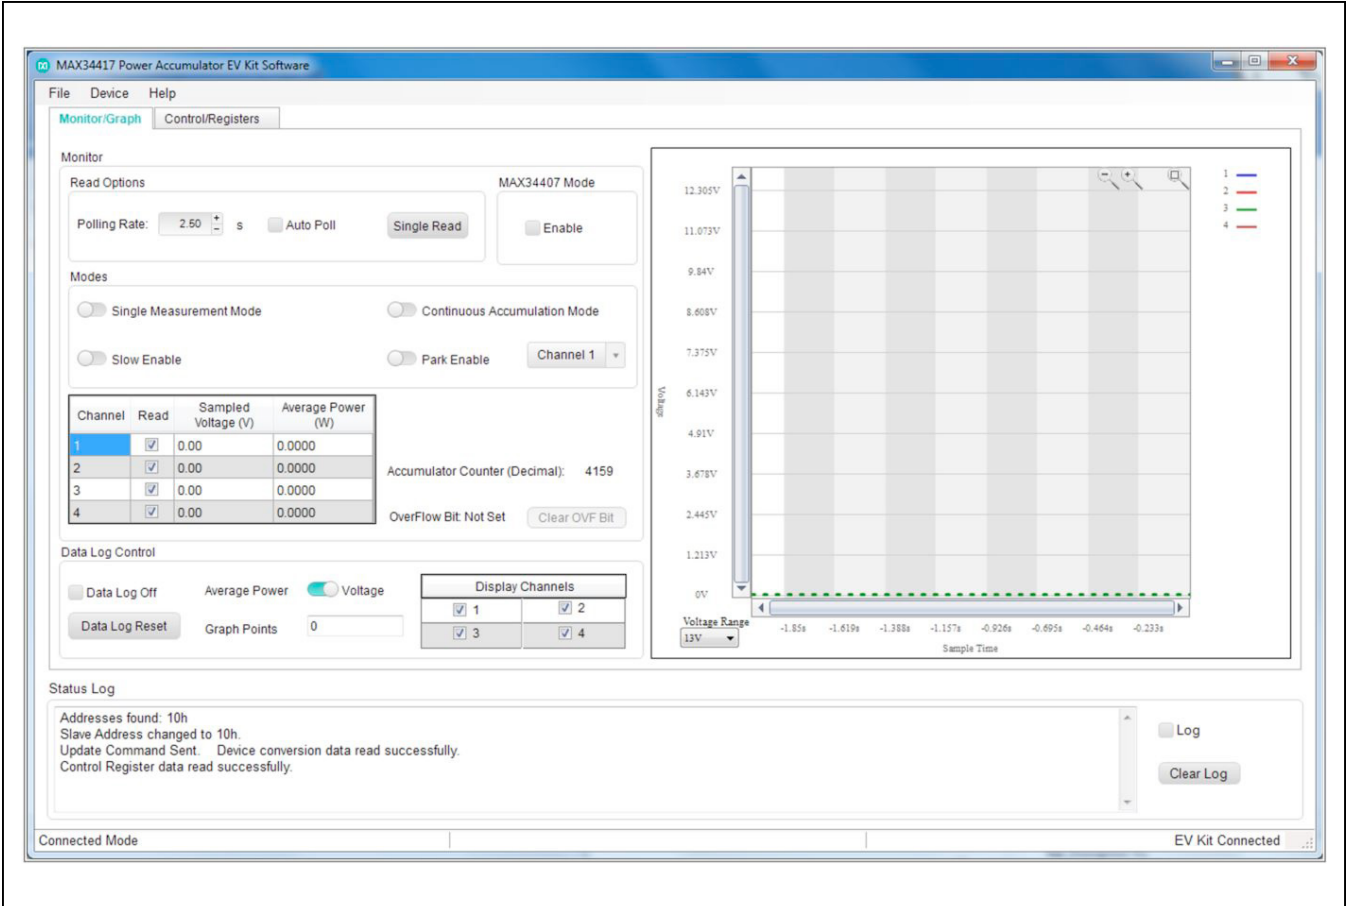
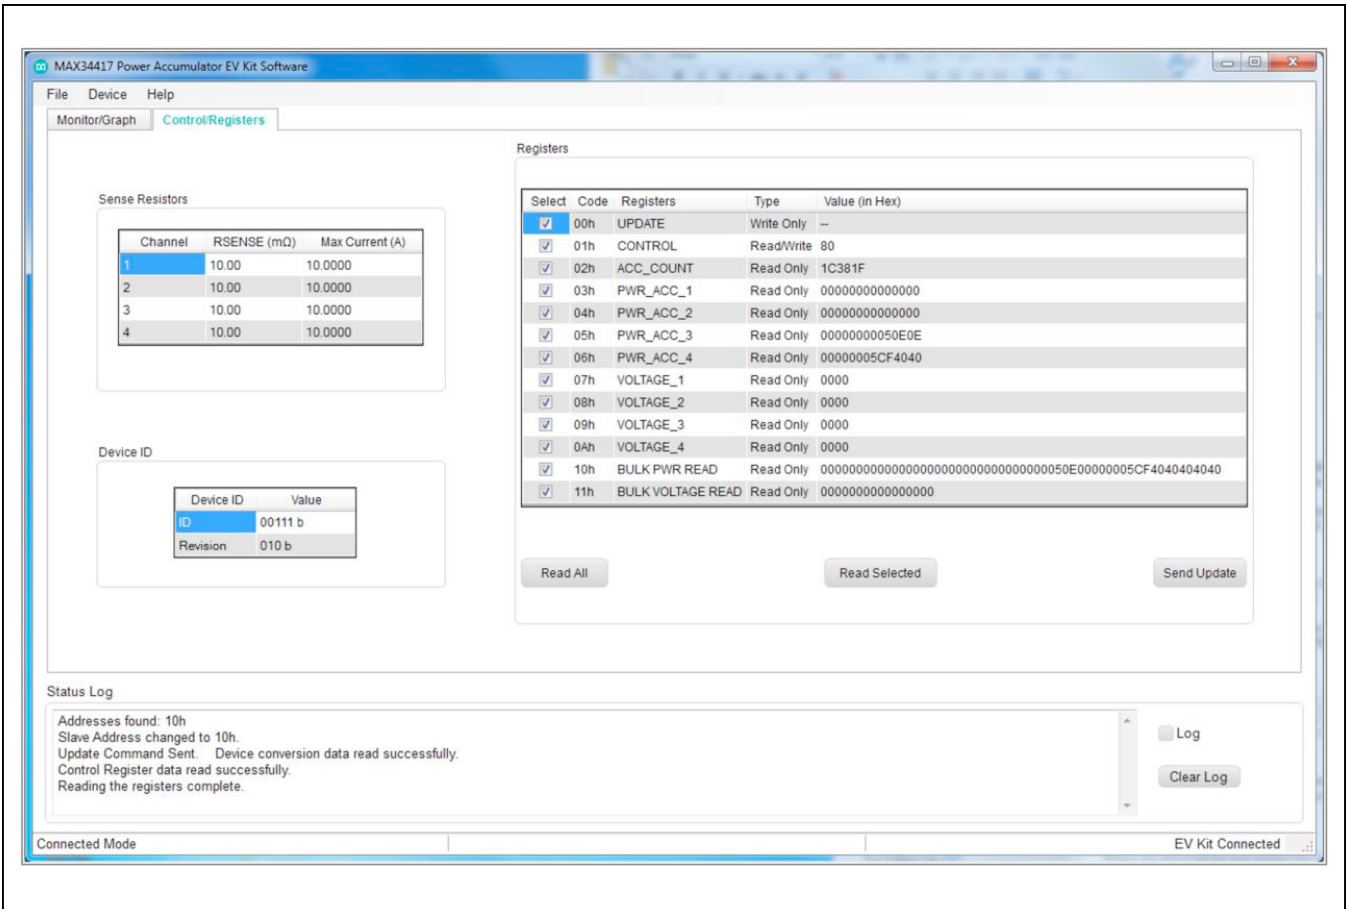

Figure 1. MAX34417EV Kit Software—Monitor/Graph Tab
Figure 2. MAX34417EV Kit Software—Control/Registers Tab
The **Monitor/Graph** tab (Figure 1) displays all the accumulator values. In the **Monitor** group box table, the **Polled** values are the Accumulator values read from PWR\_ACC\_1 to PWR\_ACC\_4 that are converted to amps using the **RSENSE** value in the **Sense Resistors** table on **Control/Registers** tab of the GUI (Figure 2). The **Sampled Voltage** and **Average Power** columns track the voltage and average power of the **Polled** value for each channel. All values on the tab are read when the tab is selected or when the **Read** button is clicked. The **OC** status bits are cleared after every read. Check the **Auto Poll** checkbox to continuously read with the **Polling Rate**.
The **Control/Registers** tab (Figure 2) displays all the SMBus commands and their current values. In the **Control** group box table, the **RSENSE (mΩ)** column is the value of the resistor (R3X–R4X) between IN\_P and IN\_N signals. The **Max Current (A)** column displays the maximum current threshold converted to amps using the **RSENSE** value.